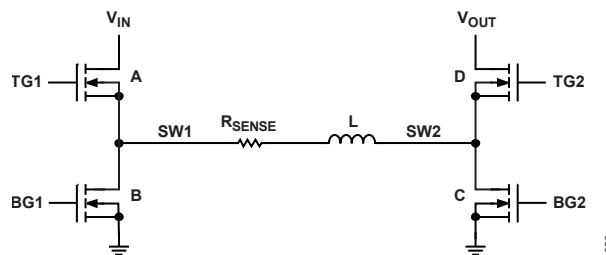
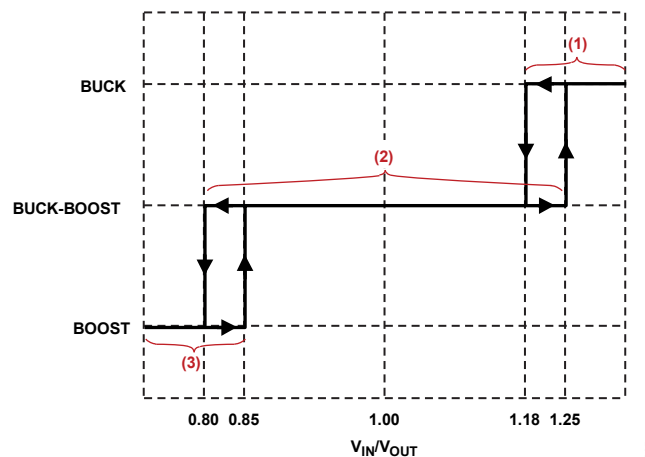

Figure 36. Simplified Diagram of the Power Switches
Figure 37. Operation Region vs V_{IN}/V_{OUT} Ratio
Figure 36 shows a simplified diagram of how the four power switches, A, B, C, and D, are connected to the inductor L, the current sense resistor R_{SENSE} , the power input V_{IN} , the power output V_{OUT} , and the ground. The current sense resistor R_{SENSE} connected to the LSP and LSN pins provides inductor current information for both peak current mode control and reverse current detection in buck region, buck-boost region, and boost region. Figure 37 shows the operation region as a function of the V_{IN}/V_{OUT} ratio. The power switches are properly controlled to smoothly transition between modes and regions. Hysteresis is added to prevent chattering between modes and regions. There are a total of three states: (1) Peak-buck current mode control in the buck region, (2) Peak-boost peak-buck current mode control in the buck-boost region, and (3) Peak-boost current mode control in the boost region. The following sections give detailed descriptions for each state with waveforms, in which the shoot-through protection dead time between switches A and B and between switches C and D are ignored for simplification.